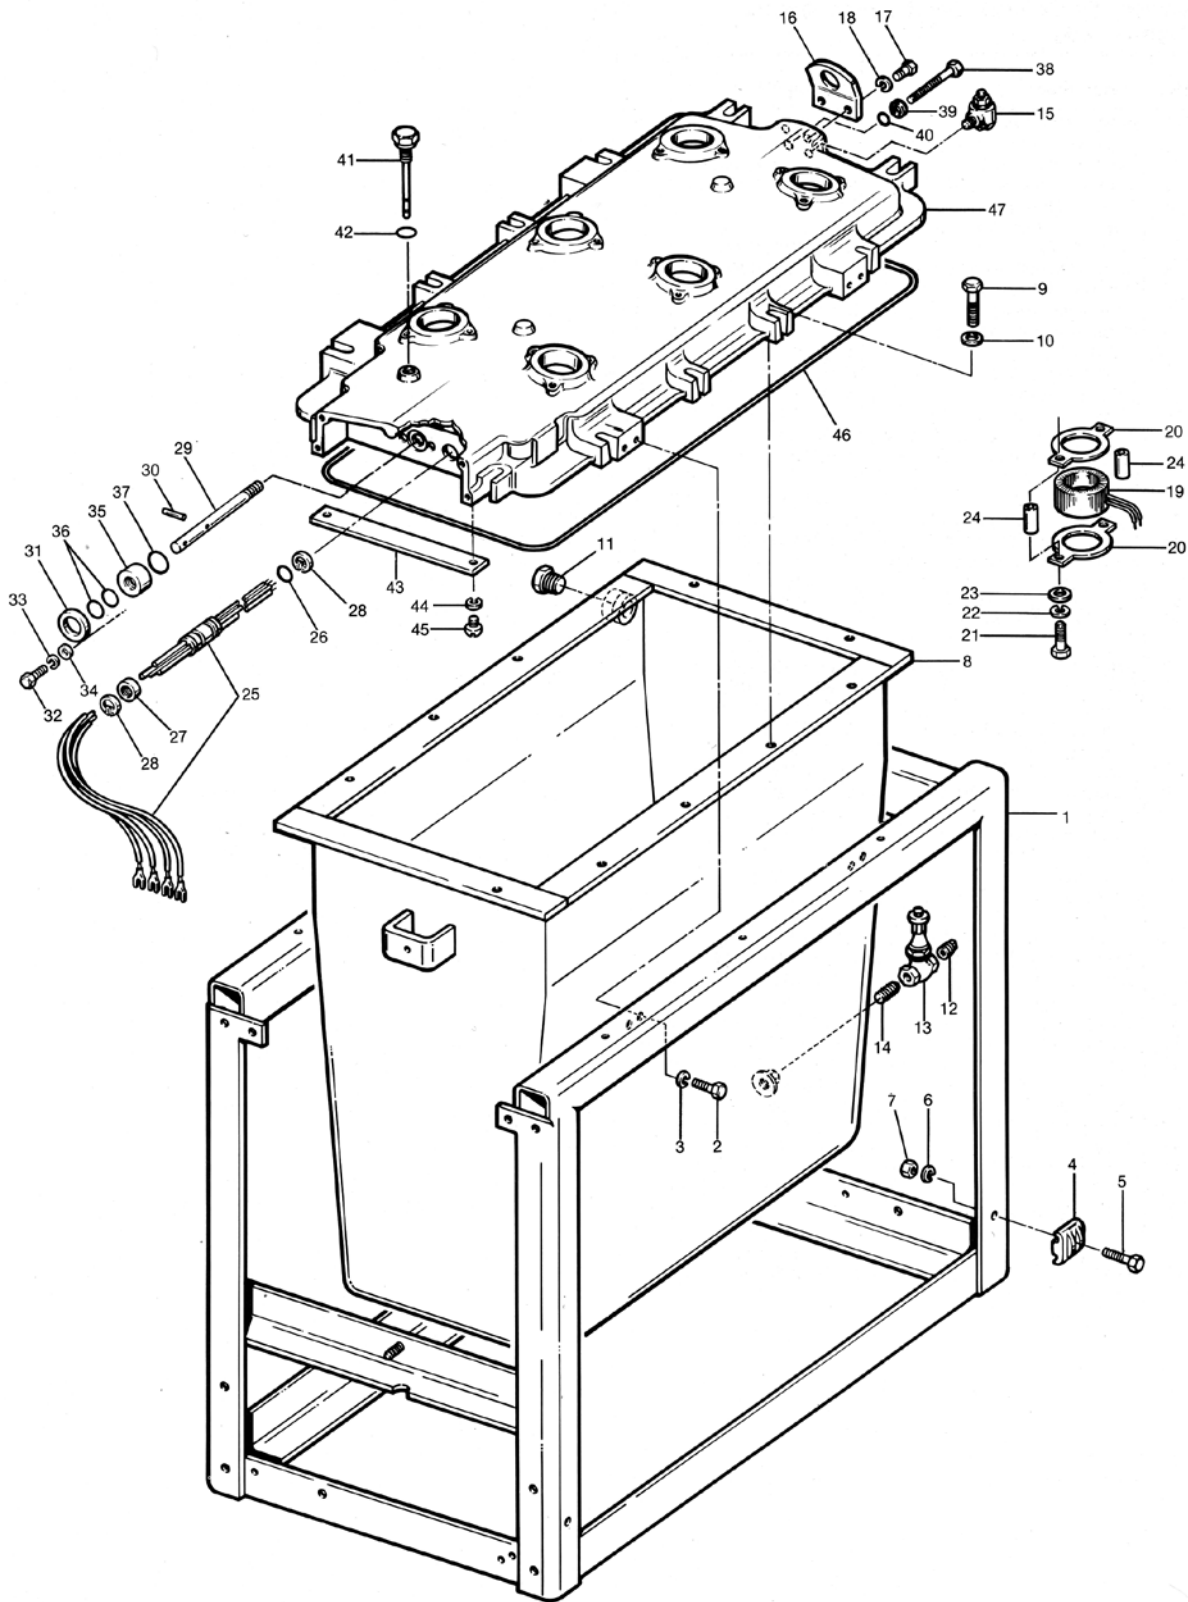

Figure 29. Frame, tank and head parts group
**Frame, tank and head parts group (Figure 29)**